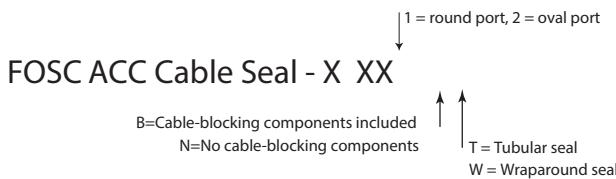

Figure 1
- Install the wraparound sleeve around the port and cable. Be sure that the inside edge of the sleeve butts against the FOSC 400 closure base. Squeeze the sleeve down onto the cable and place a white pencil mark on the cable just beyond the edge of the sleeve. (Figure 1)